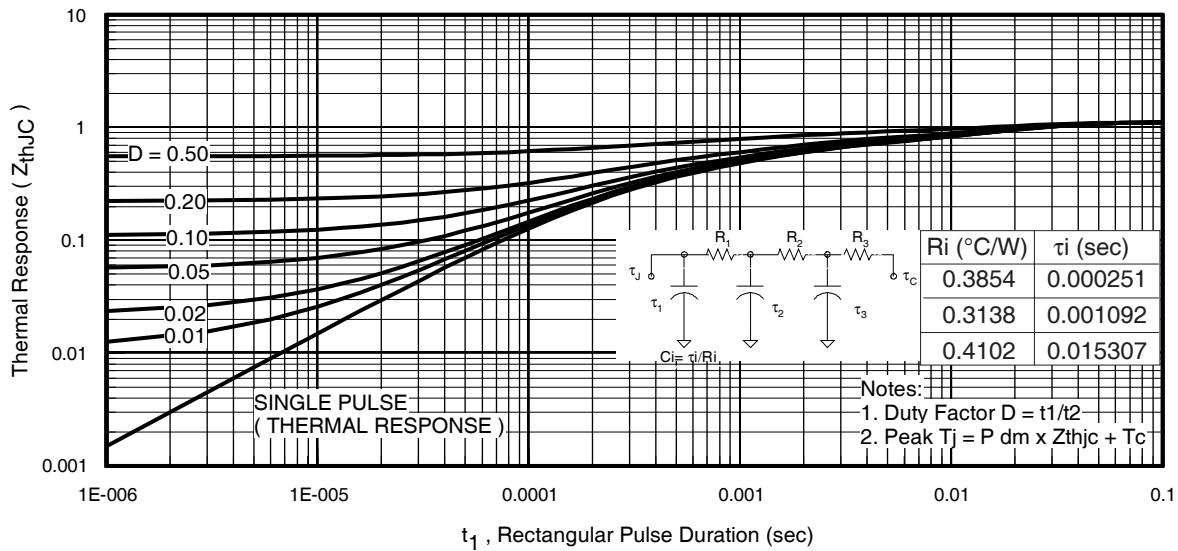
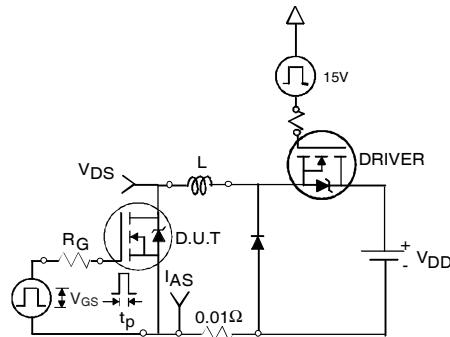

Fig 11. Maximum Effective Transient Thermal Impedance, Junction-to-Case
Fig 12a. Unclamped Inductive Test Circuit
3. Equation below based on circuit and waveforms shown in Figures 12a, 12b.
$Z_{thJC}(D, t_{av})$ = Transient thermal resistance, see figure 11)
- ① Repetitive rating; pulse width limited by max. junction temperature. (See fig. 11).
- ② Limited by T_{Jmax} , starting $T_J = 25^\circ\text{C}$, $L = 0.13\text{mH}$ $R_G = 25\Omega$, $I_{AS} = 42\text{A}$, $V_{GS} = 10\text{V}$. Part not recommended for use above this value.
- ③ Pulse width $\leq 1.0\text{ms}$; duty cycle $\leq 2\%$.
- ④ $C_{oss\ eff.}$ is a fixed capacitance that gives the same charging time as C_{oss} while V_{DS} is rising from 0 to 80% V_{DSS} .
- ⑤ Limited by T_{Jmax} , see Fig.12a, 12b, 15, 16 for typical repetitive avalanche performance.
- ⑥ This value determined from sample failure population. 100% tested to this value in production.
- ⑦ When mounted on 1" square PCB (FR-4 or G-10 Material). For recommended footprint and soldering techniques refer to application note #AN-994
- ⑧ R_θ is measured at T_J approximately 90°C